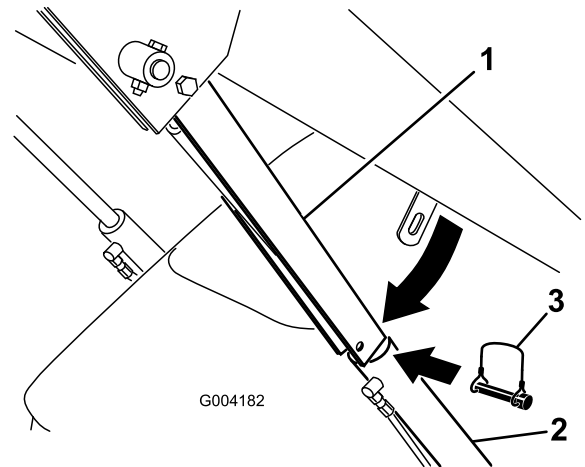

Figure 23
4. Remove the lynch pin securing the cylinder lock to the loader arm (Figure 23).
5. Lower the cylinder lock over the cylinder rod and secure it with the lynch pin (Figure 23).